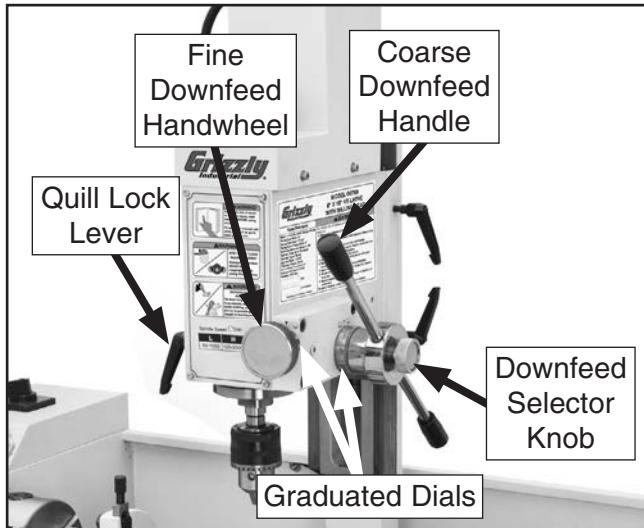

Figure 109. Spindle controls.
The Model G0769 features two different types of spindle downfeed controls: coarse and fine, as shown in **Figure 109**.
Coarse downfeed is typically used for drilling applications. Rotate either of the coarse downfeed handles (see **Figure 109**) to lower the spindle, and an internal coil spring helps raise the spindle back to the top position when you stop applying downward pressure on the handle.
Fine downfeed is typically used for milling applications, because the spindle only moves up or down when the fine downfeed handwheel (see **Figure 109**) is rotated (there is no automatic spindle return to the top position, as with the coarse downfeed controls). This allows the spindle height to be locked in place for precise Z-axis positioning of a cutter or end-mill when milling a flat surface across the face of a workpiece. In order to ensure the milled surface remains flat, the spindle height cannot move until the entire milling operation is complete.
2. Tighten downfeed selector knob (see **Figure 109**) to engage fine downfeed handwheel.